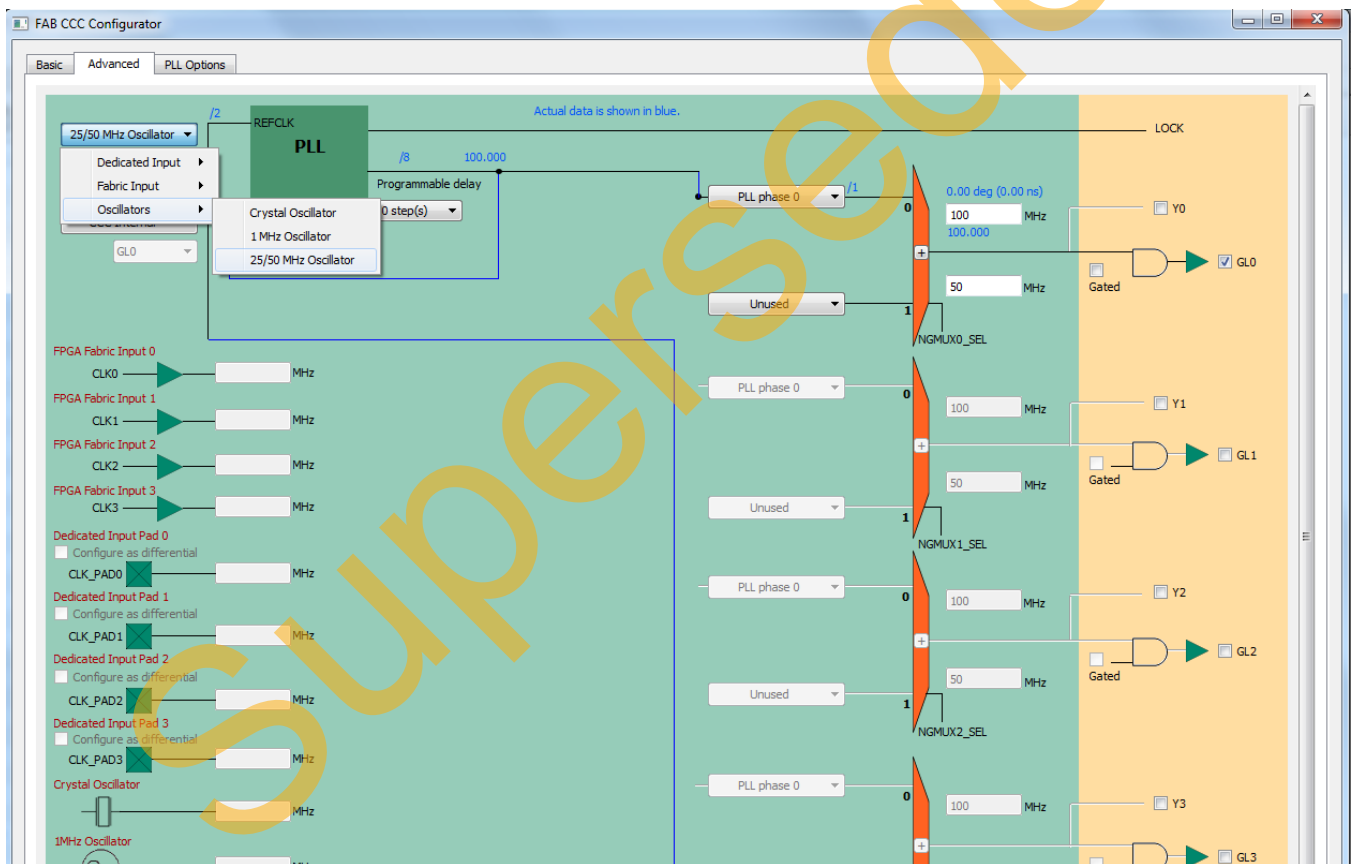

Figure 19. Selecting the Clock Source
- Select the **Advanced** tab, as shown in Figure 19.
- In the **Advanced** tab, select the clock source as **Oscillators -> 25/50 MHz Oscillator**, as shown in Figure 19.